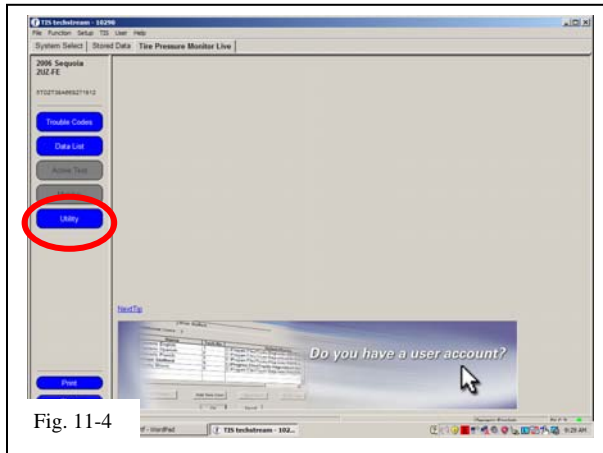

Fig. 11-4
- (g) Select “UTILITY” to begin input of new TPMS ID codes (Fig. 11-4).